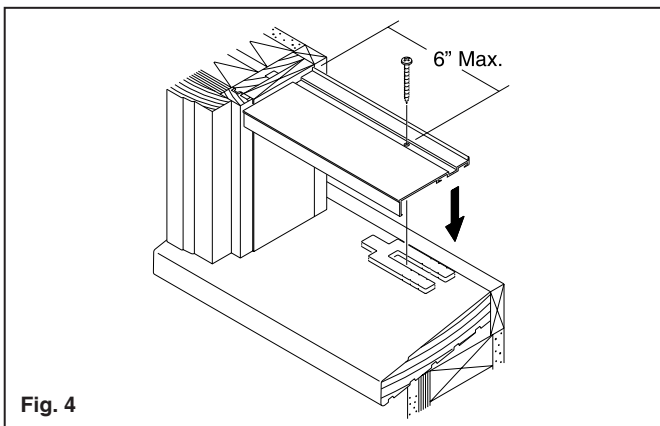

Fig. 4
B. Horse Shoe shims or equal, are needed to support the Sill Plate at installation screw locations. Make sure Sill Plate is straight and level prior to fastening. Screws should be no more than 18" apart on center, with corner screws approximately 6" from jambs. See **Fig. 4**. Use #8 x 2" Phillips sheet metal screws. Length of screw may vary per job condition. Screws must be long enough to secure Sill Plate to existing wood sill. Seal screw heads with an appropriate sealant after installing.